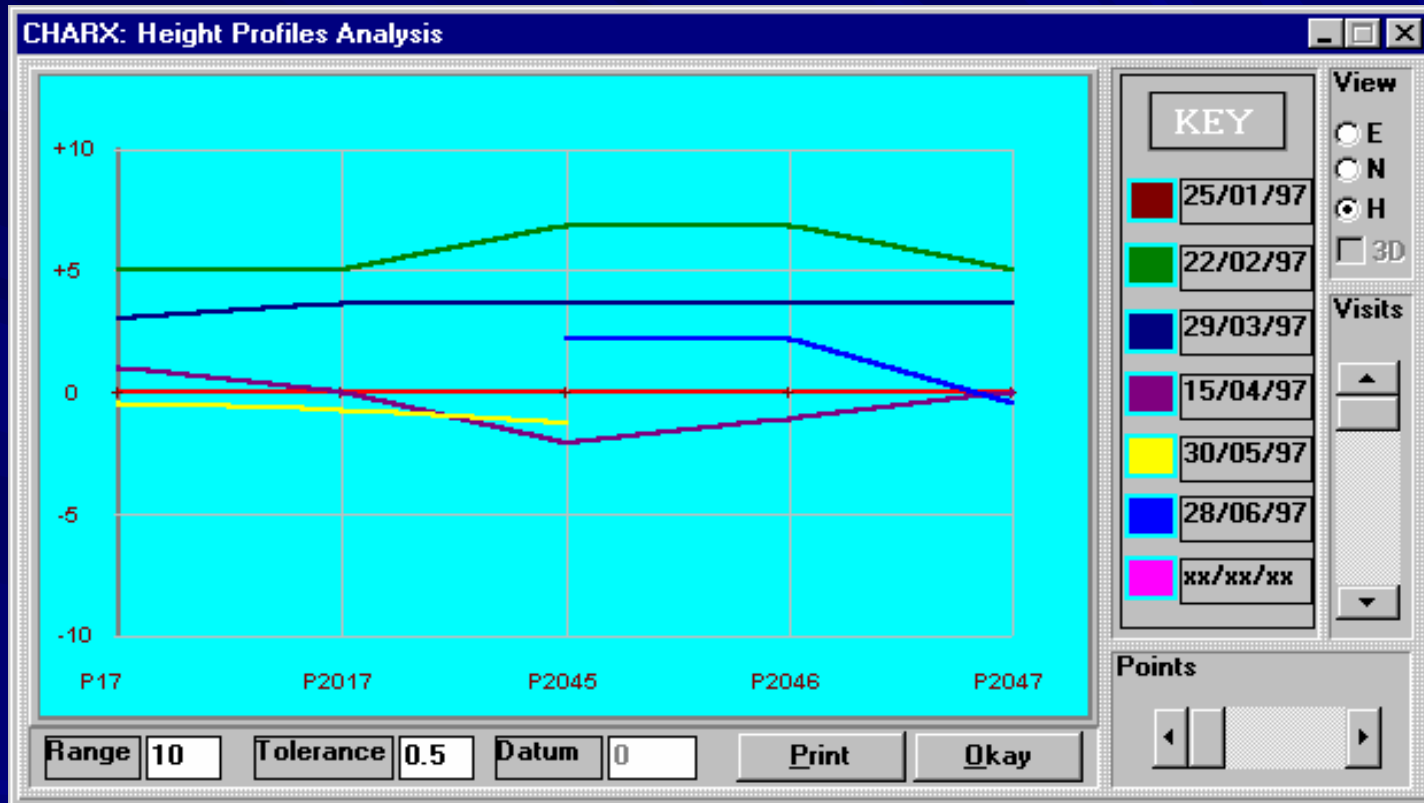

Fig. 7-3
- SMS highlights movements from user-specified tolerance to a depth of seven cycles, Fig. 7-3.